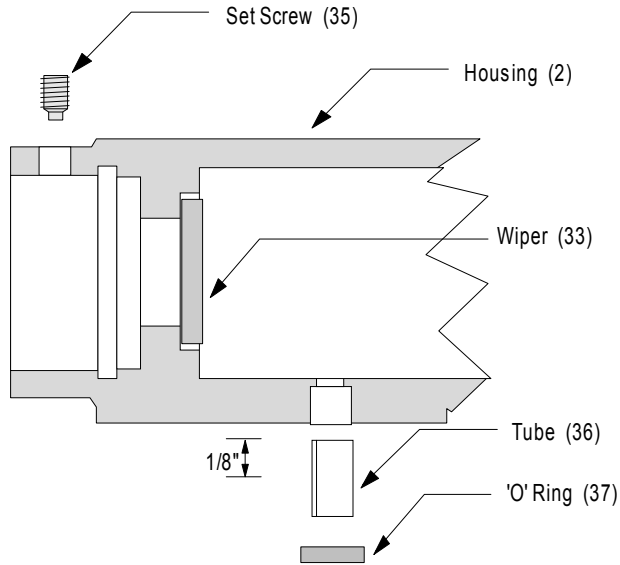

Figure 3-07
- 3.4.3.3 Install wiper (33) into the housing (2) (*ref fig. 3-07*).
- 3.4.5.5 Insert 'o' ring (37) into passage recess in handle (*ref fig. 3-07*). Polish tube end (36), approximately $\frac{1}{8}$ ", to facilitate insertion into housing. Insert tube, seating firmly in place.